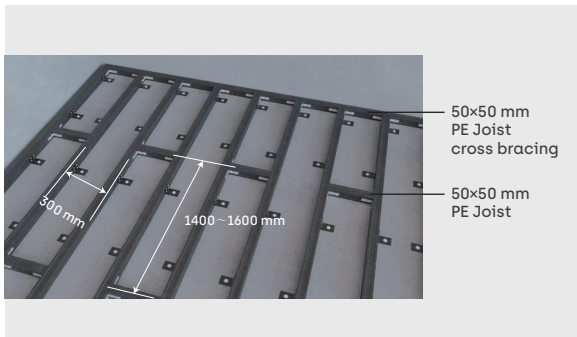

Figure 2-2
1. Install 50×50 mm PE main joists. For 25 mm thick decking boards, the center-to-center spacing of the joists should be 300 mm. Cross bracing shall be installed between joists at intervals of 1,400–1,600 mm, as shown in Figure 2-2.